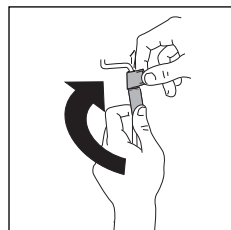

fig. 20
2. With one hand, hold the cappuccino tube firmly and with the other unscrew the cappuccino maker itself by rotating clockwise and extracting downwards (fig. 20).